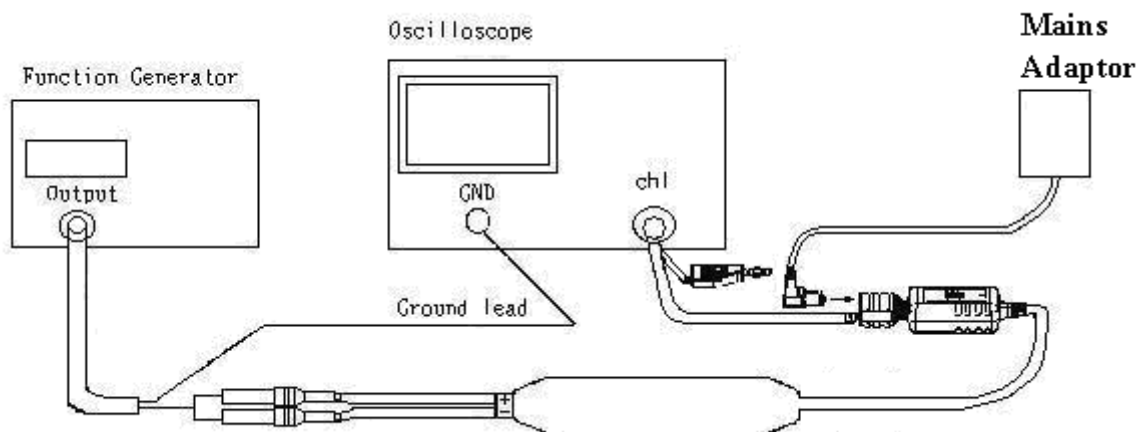

Fig. 8
- G-1. Connect the probe as shown in Fig.8.